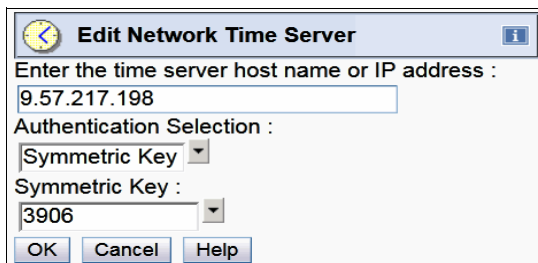

Figure 8-19 Adding NTP Server with Authentication
10. In the Edit Network Time Server window (see Figure 8-19), select the appropriate key number in the **Symmetric Key** field. In this example, we select key 3906. Click **OK** to continue.